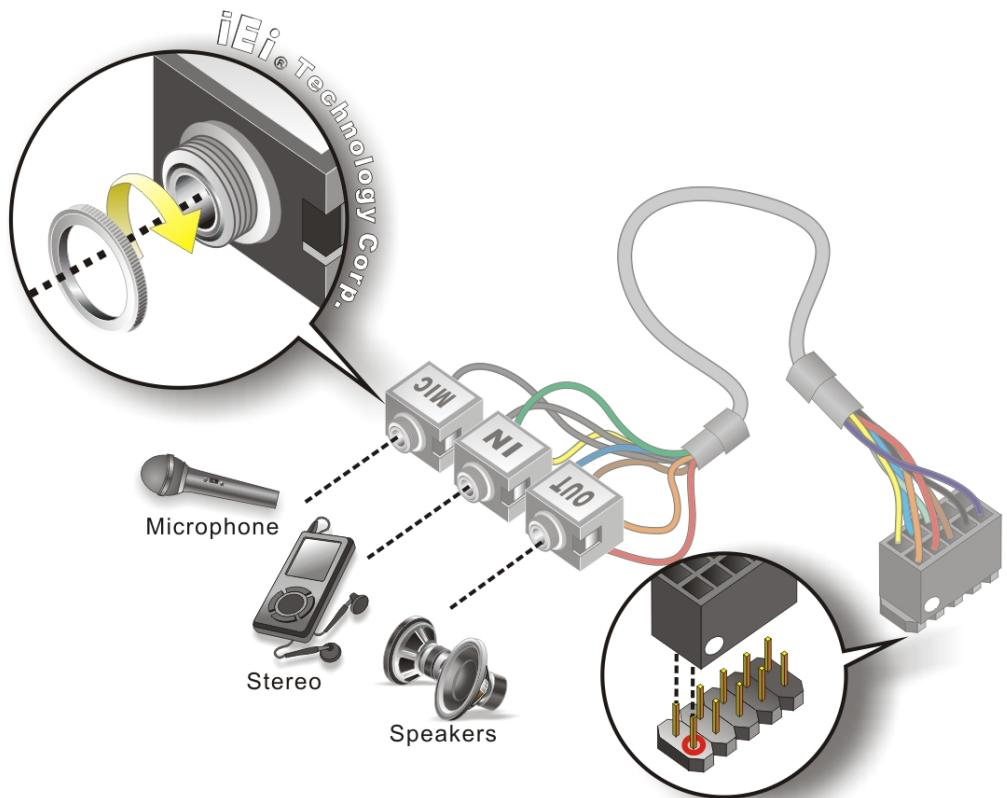

Figure 4-7: Audio Kit Cable Connection
**Step 2: Align pin 1.** Align pin 1 on the on-board connector with pin 1 on the audio kit connector. Pin 1 on the audio kit connector is indicated with a white dot. See Figure 4-7.